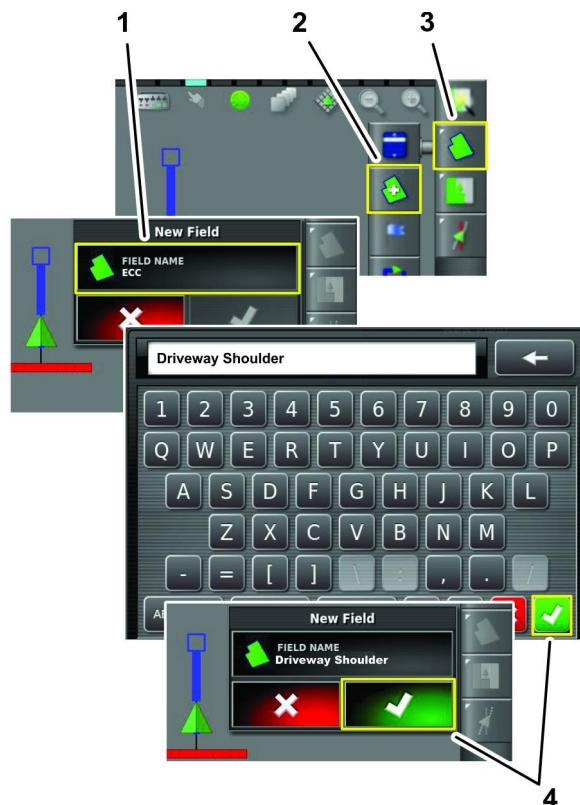

Figure 38
1. Press the Field Menu icon, and press the New Field boundary icon (Figure 38).
- 2. Press the Field Name icon (Figure 38).
- 3. Enter the field name with the on-screen keyboard, and press the confirm icon (Figure 38).
- 4. In the new field dialog box, press the confirm icon (Figure 38).